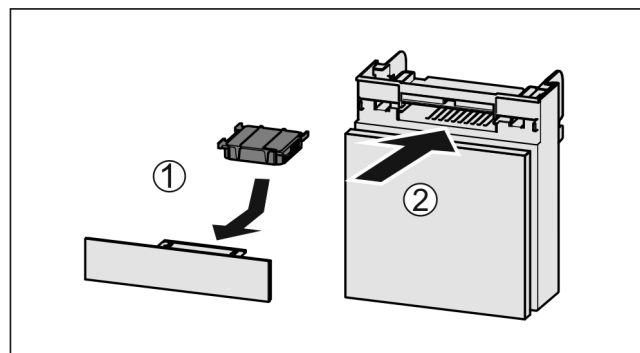

Fig. 99
- ▶ Insert the carbon filter as shown in the diagram *Fig. 99 (1)*.
- ▶ Push the compartment in *Fig. 99 (2)*.